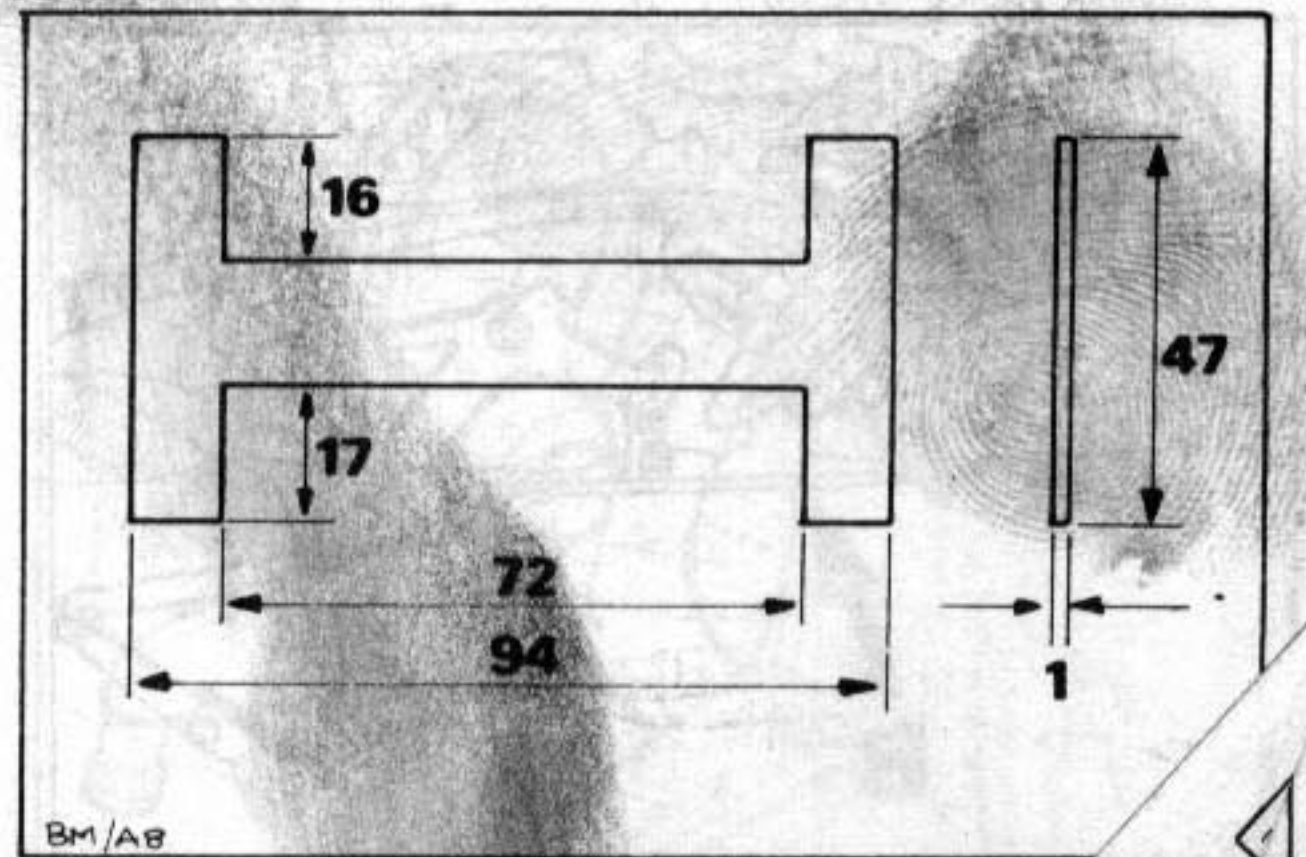

Fig. 9 Float level gauge
- Measuring gauge, made up to dimensions shown in Fig. 9, can be used to check float level.